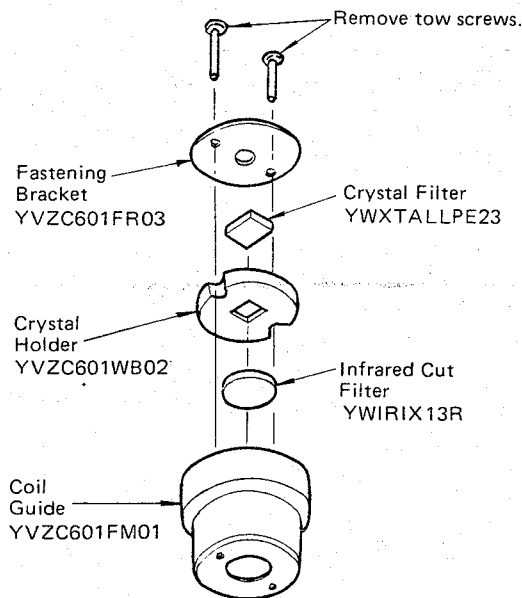

Fig. 5-2
- Remove the two screws on the coil guide to allow disassembly as shown in Fig. 5-2.